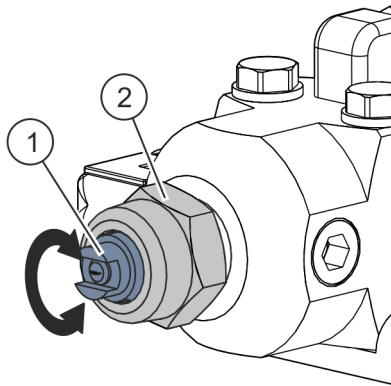

Fig. 5: Nozzle setting
1.  Loosen nozzle nut ( Fig. 5/2); do not unscrew completely.
2.  Turn material nozzle ( Fig. 5/1) to the desired position.
3.  Tighten the nozzle nut ( Fig. 5/2).